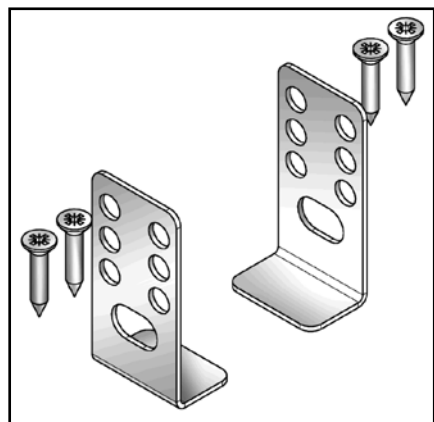

Fig. 2
- No. 2 rear mounting brackets + no. 4 chipboard screws 4.5×16 mm (**Fig. 2**).